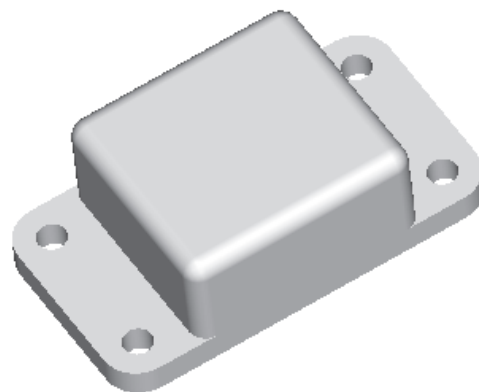

Figure 6-39 Model after creating the hole pattern
- e. The fourth feature is a hole feature, see Figure 6-38, and then this hole will be patterned, see Figure 6-39. After you pattern the hole feature, the hole and the pattern features will be combined in a single feature.
11. Enter **2** in the **Message Input Window** and press ENTER. The rectangular pattern of holes will be displayed as shown in Figure 6-39.
You can use CTRL+middle mouse button to spin the model and to display the model as shown in Figure 6-39.